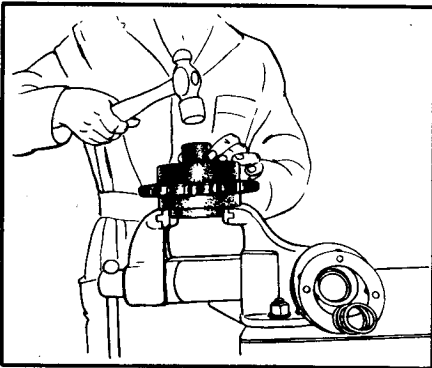

Figure 13 Removing Bearing
Figure 11. The oil seal (1) may now be removed from the bearing retainer. To remove bearing (8) drive against the inner race as shown in Figure 13. Oil seal (9), Figure 11, may now be removed from the sprocket.